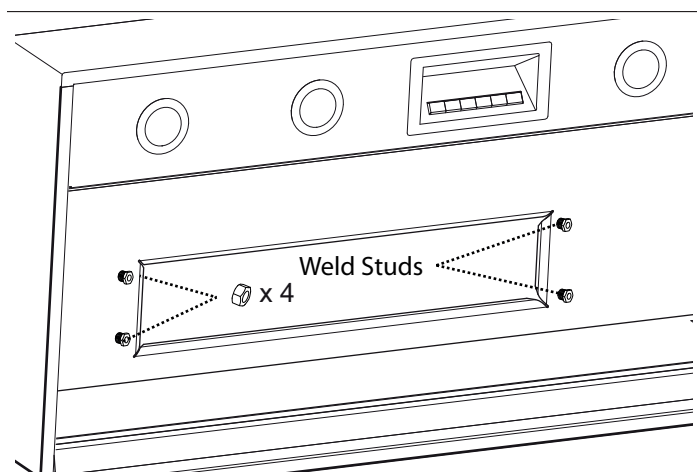

Figure 6: Weld Stud Location
1. The blower is attached to the hood using weld studs on the mounting plate. *Figure 6* exhibits the weld stud locations.
3. Attach four (4) nuts (included with hood) to the weld studs. Tighten nuts to secure the blower to the hood.